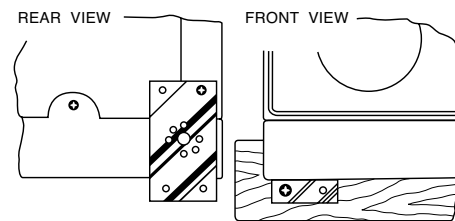

Figure 2
8. Referring to figure 2, remove one screw from each lower rear corner of dryer and, using same screws, secure lower brackets (supplied) as shown.
11. If the dryer needs plumbing, use some of the twelve washers supplied with the kit as spacers behind lower brackets of figure 2 and secure the dryer to the lower 2x4 support using the remaining 1-1/2 inch wood screws.